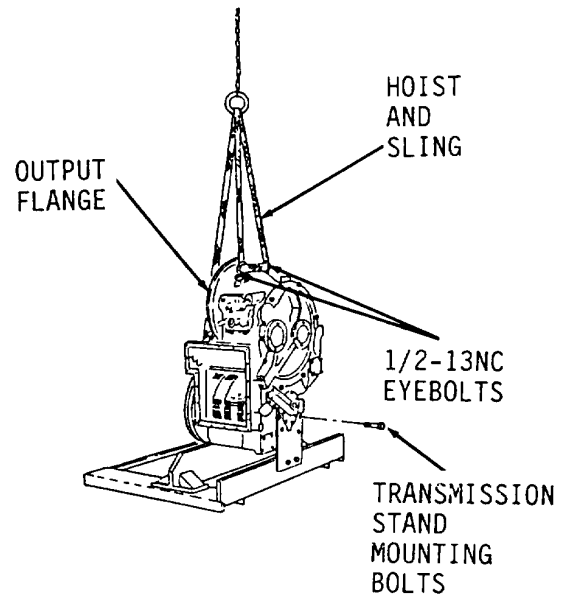

Figure 14-36.
10. Install two 1/2-13NC eyebolts and nuts (Figure 14-36) in top of output flange in transmission.